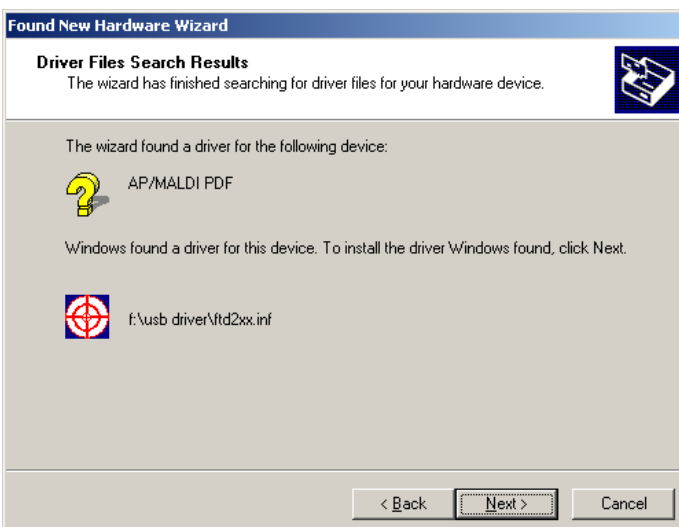

Figure 135 Correct driver found
- 6 The wizard should find the correct USB driver for the PDF-MALDI source. See Figure 135 for the correct driver name.